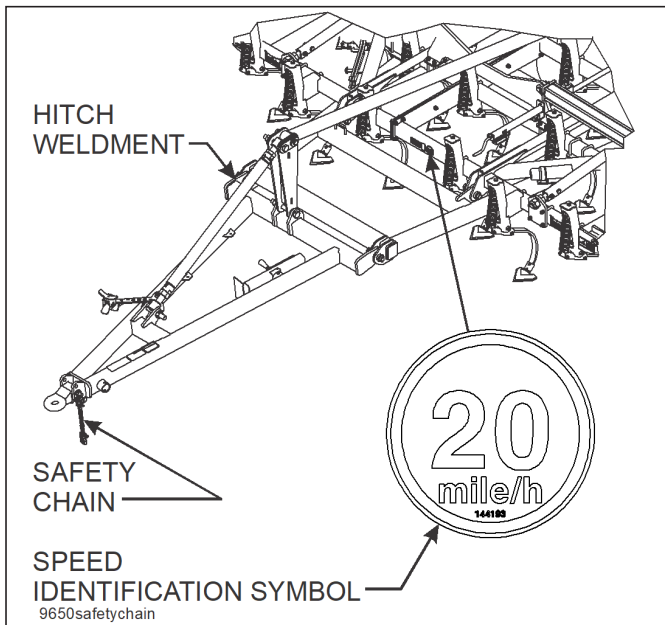

Figure 4-5: Hitch, Speed Identification Symbol, and Safety Chain
2. The Field Cultivator should be transported only by tractor required for field operation. The implement weight should not exceed more than 1.5 times the tractor weight. Unless noted on the implement, maximum transport speed is 20 mph for the implement and is designated on the speed identification symbol located on the front of the implement See Figure 4-5.
8. Attach the safety chain to the tractor drawbar See Figure 4-5. Provide only enough slack in the chain for turning. Do not use an intermediate chain support as the attaching point for the chain on the tractor. Do not pull the implement by the safety chain.